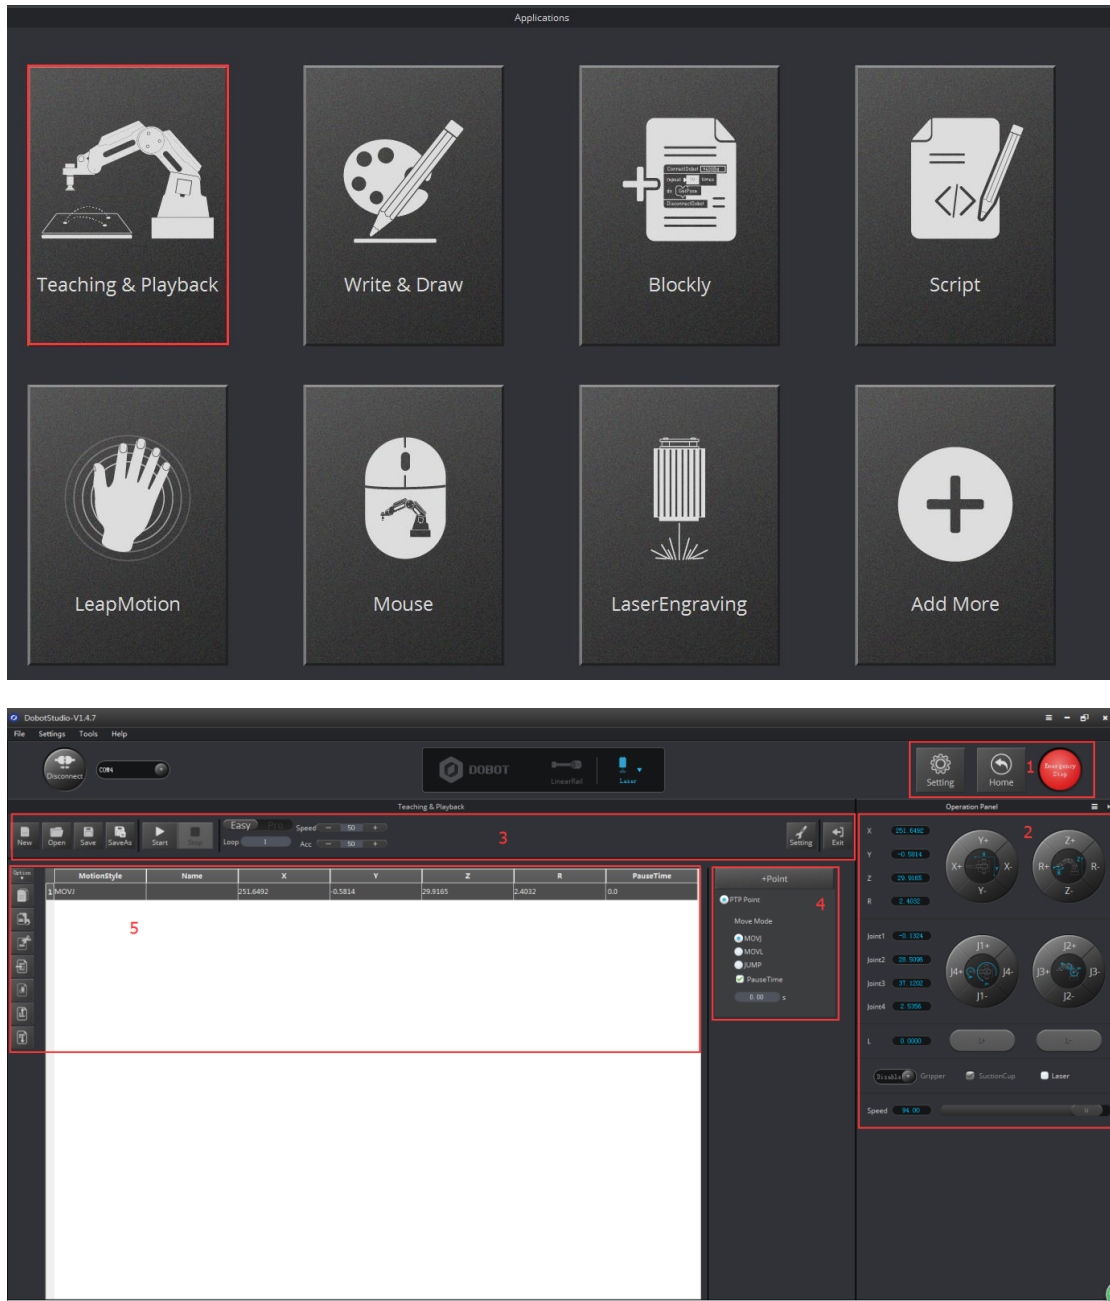

Figure 2.5 The main interface of teaching & playback
3. Install the gripper kit on Joint4 with the coupler, as shown in Figure 2.5: